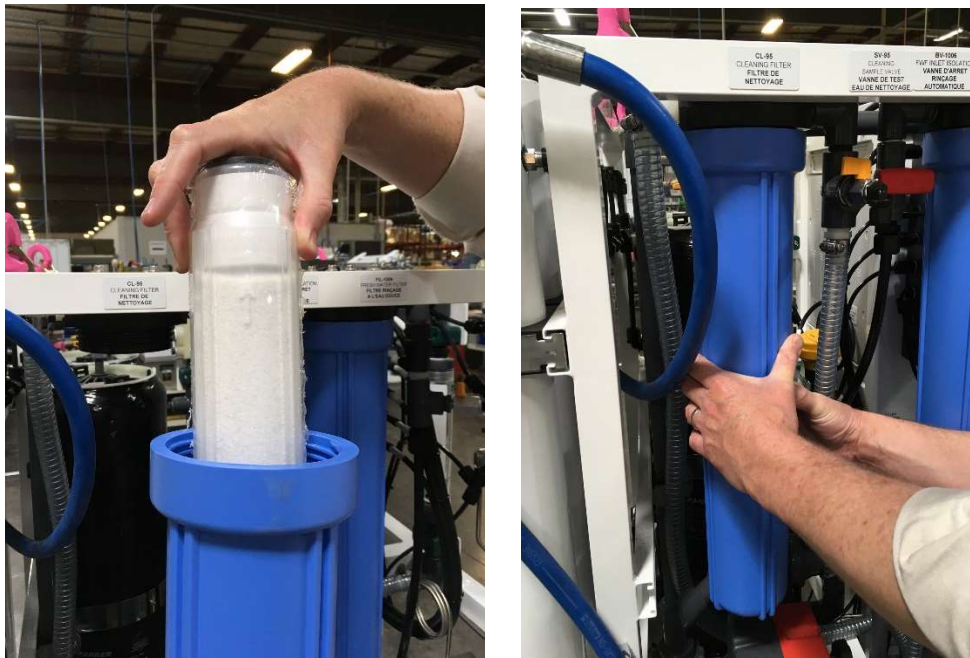

Figure 7.17 - Membrane Cleaning (CIP) (Cont'd)
5) Install Cleaning Filter Element. CIP CLEANING ELEMENT #1. See Figure 7.17 - Installation of cleaning cartridge in the cleaning cartridge housing.